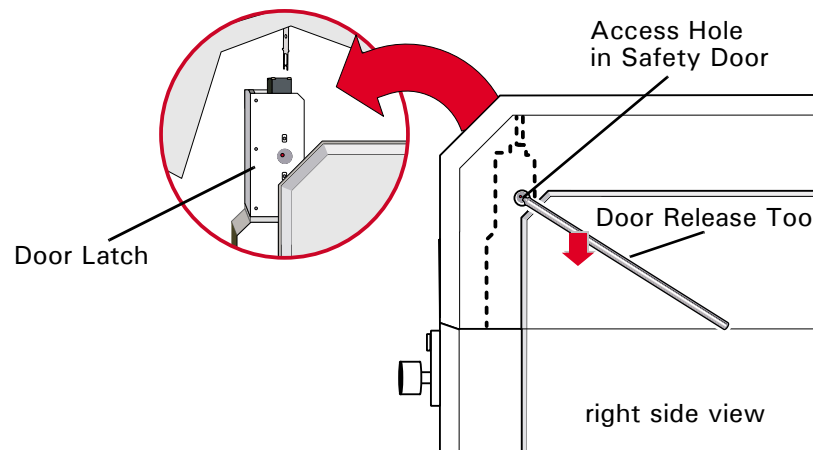

Figure 4-7
1. Insert the tapered end of the manual release tool into the access hole in the right side of the safety door. See Figure 4-7.